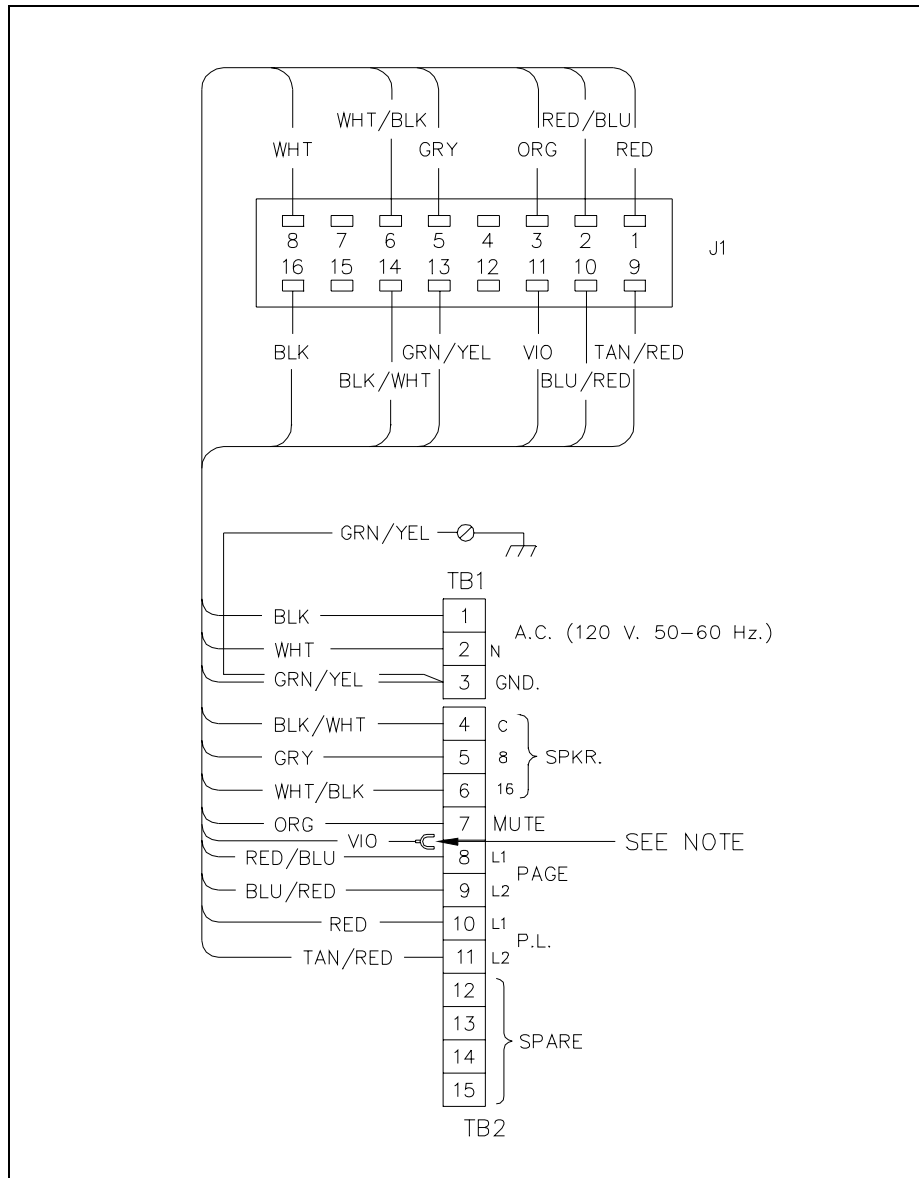

Figure 7. Wiring Detail
3. Make connections by following the wire colors as illustrated in Figure 7. The wire colors correspond to GAI-Tronics 60029 and 60038 Series system cable and to 60021 for speaker cable.
5. Connect cable cores to terminals following the wire colors as illustrated in Figure 7. The wire colors correspond to GAI-Tronics 60071 and 60072 Series system cable and to 60070 for speaker cable. Connect the wires carefully and completely to the compression terminal block. An improper termination may result in diminished station performance.